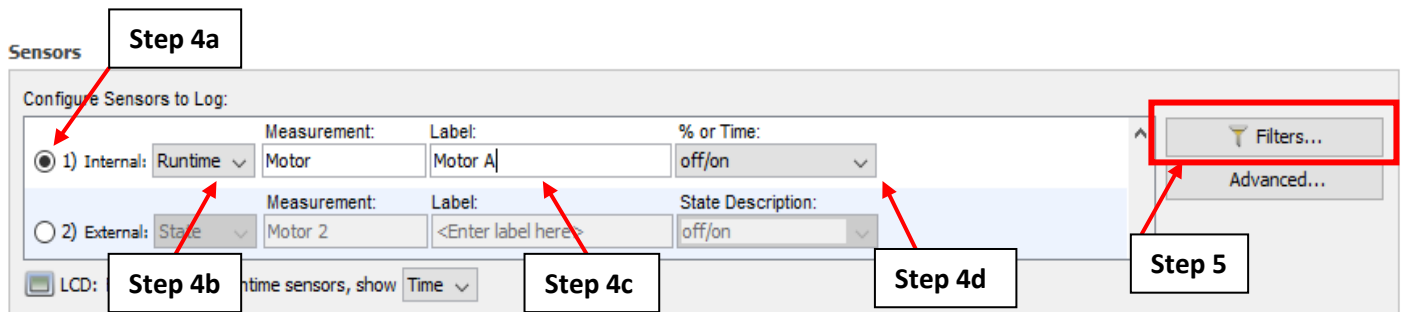

Figure A.1.4: The “Sensors” table with the necessary configuration steps.
4. Figure A.1.4 shows what settings to enable in the “Sensors” table:
5. Click the “Filters...” button (Figure A.1.4). A window called “Filter Series” will appear.